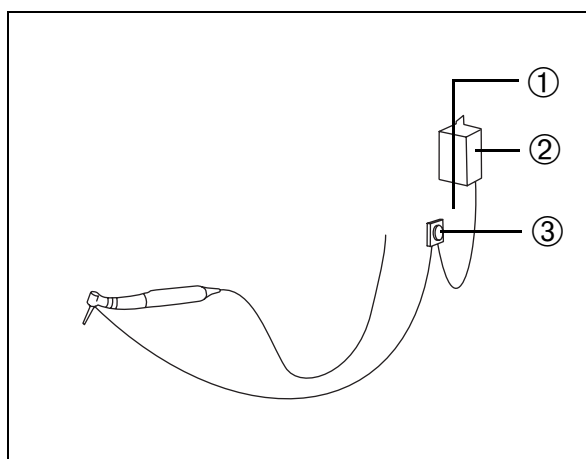
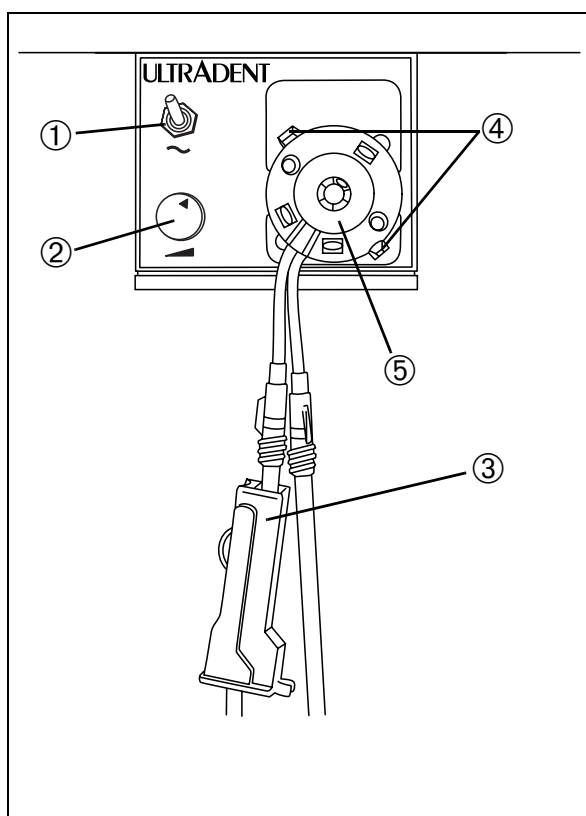

Fig. 72
Fig. 73
The coolant is delivered using the built-in hose pump (3) (Fig. 72). The hose pump is designed in such a way that the sterile-packed infusion set can be exchanged quickly and easily.
The steripump includes the following parts (Fig. 73):
- ① Stand to support the fluid container.
- ② Standardized fluid container with sterile, physiological solutions (which can be obtained from the relevant specialized dealers).
- ③ Infusion set (Fig. 72) and (Fig. 73) with an integral hose pump (which can be obtained from the relevant specialized dealers: Satelec no. F 58707, 10 items.).